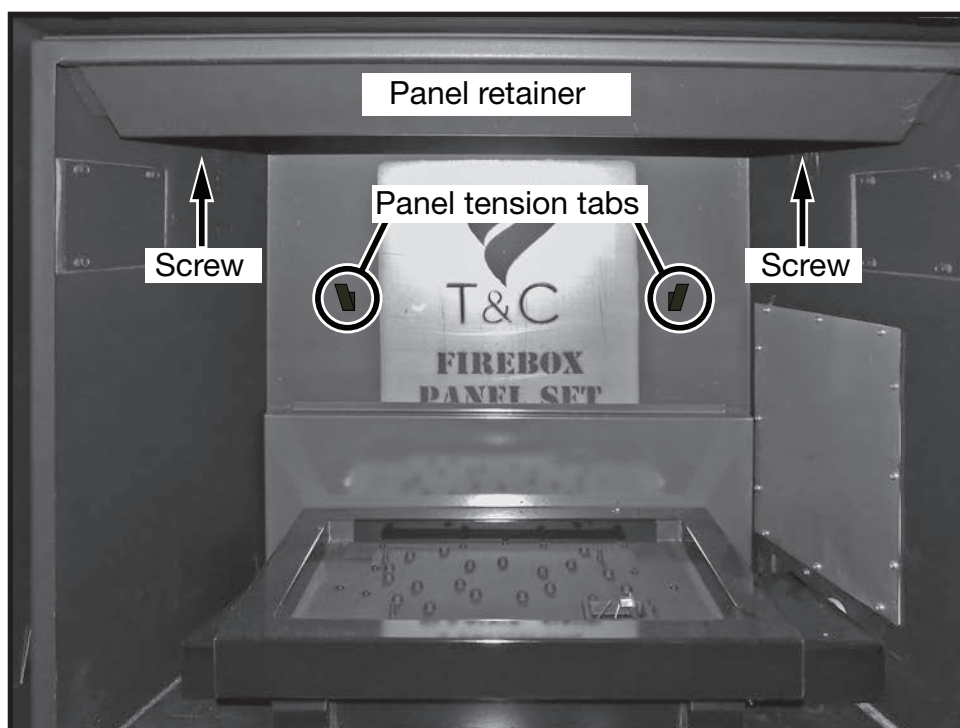
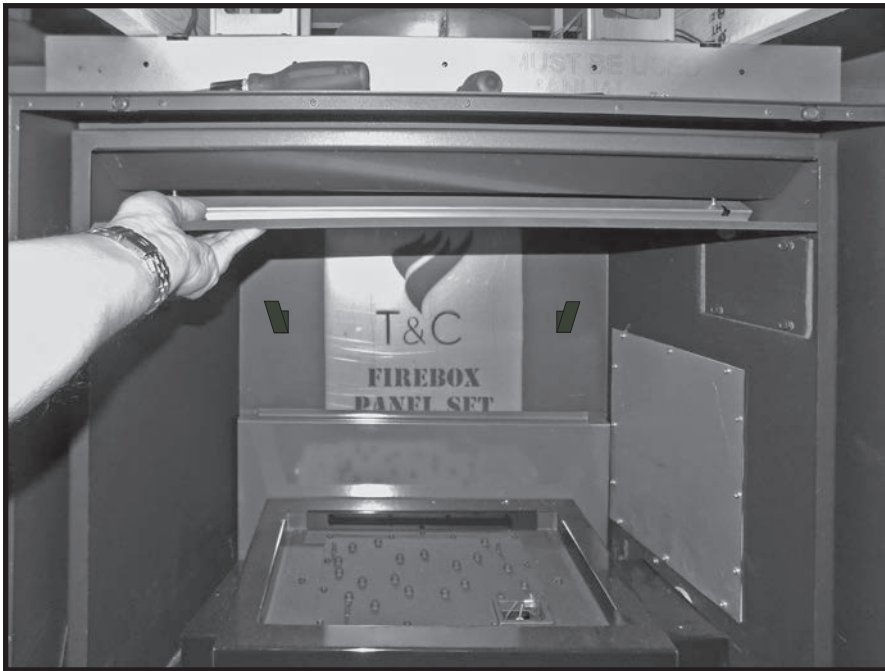

Figure 15: Panel retainer and panel tension tabs location.
Figure 16: Panel retainer removal.
14. Remove the two screws (Figure 15) which secure the panel retainer to the ceiling. Remove the panel retainer and keep for reinstallation (Figure 16).
18. There are two panel tension tabs affixed to the rear firebox wall (Figure 15 and Figure 18). These tabs apply a small amount of pressure to the upper rear panel as this panel does not fit up against the rear wall. If upper rear panel seems too loose once installed, remove panel, bend the tabs forward and try again.